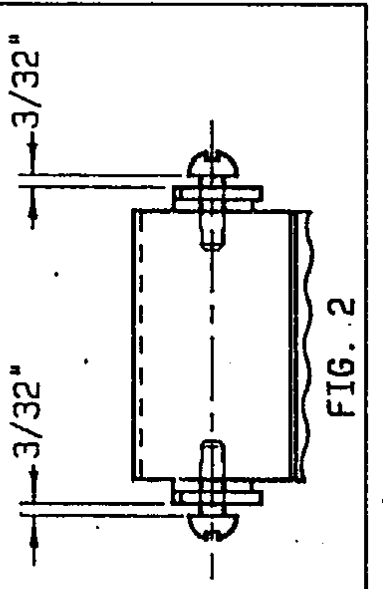
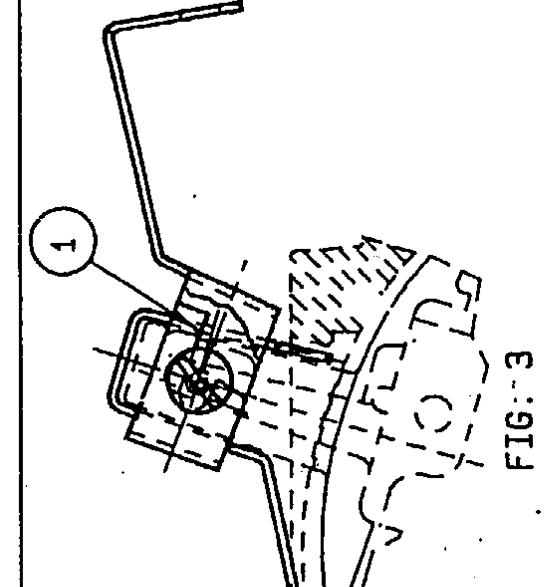

FIG. 2
FIG. 3
4. With a screwdriver, rotate (clockwise) the two screws so they enter the blind holes molded in each side of the toggle handle. Tighten the two screws evenly so that when they engage the bottom of the blind holes, they project an equal distance (3/32"-See Fig. 2) above the tapped surface. Do not over torque (Max torque 2 lb.-in.)
5. With the padlocking component positioned at the angle shown in Fig. 2, insert the padlocking device into detail 1 of Fig. 3 over the handle blocking device retaining screws.